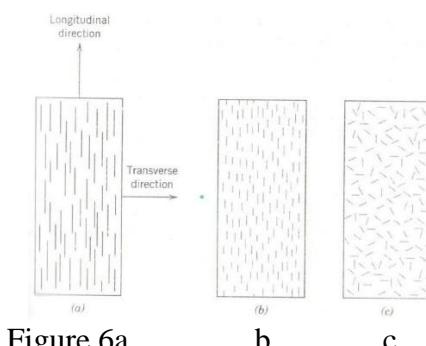

Figure 6a
The arrangement or orientation of the fibers relative to one another, the fiber concentration, and the distribution all have a significant influence on the strength and other properties of fiber-reinforced composites. Concerning orientation, two extremes are possible: (1) a parallel alignment of the longitudinal axis of the fibers in a single direction, and (2) a random alignment. Continuous fibers are normally aligned (Figure 6a), whereas discontinuous fibers may be aligned (Figure 6b), randomly oriented (Figure 6c), or partially oriented. Better overall composite properties are realized when the fiber distribution is uniform.